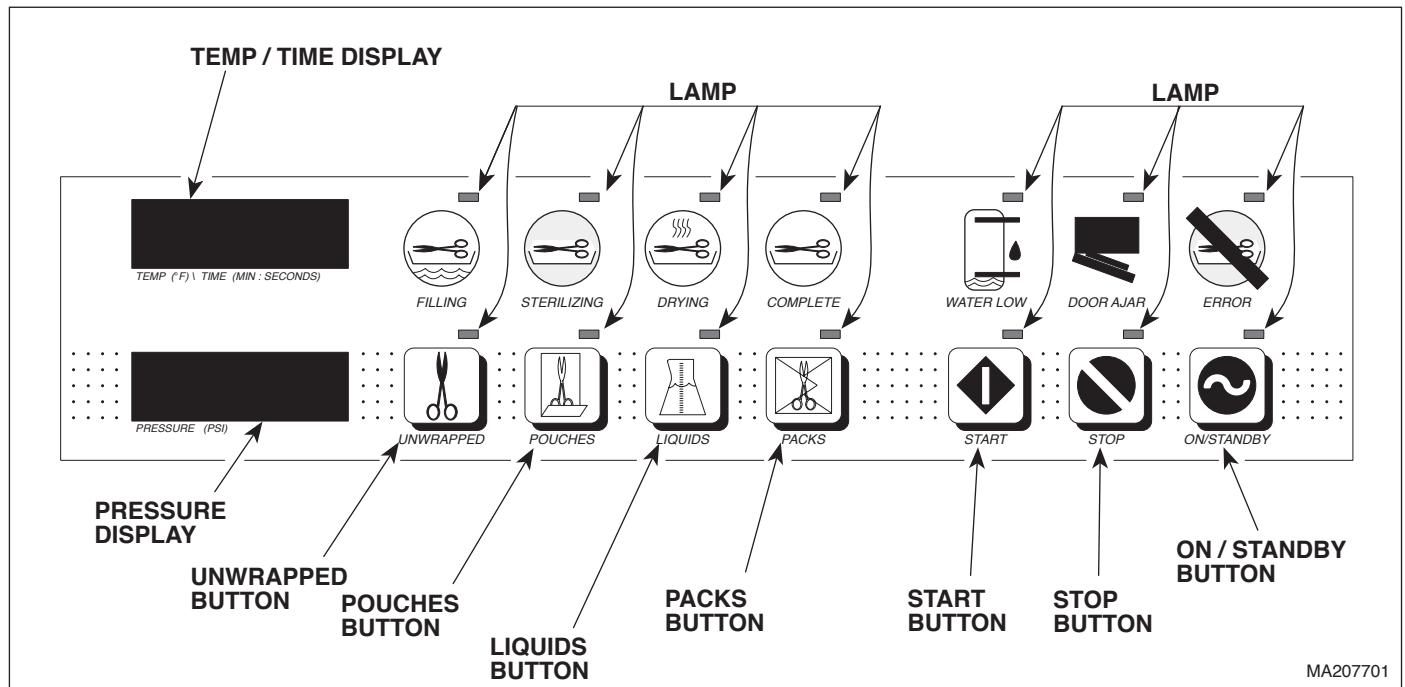

Figure 4-27. Display PC Board Lamp / Display / Button Check
- (3) Press and hold down the LIQUIDS and PACKS buttons simultaneously while connecting the power cord to the sterilizer (See Figure 4-27). Release the LIQUIDS and PACKS buttons.
- (11) Press the START button to start a test/calibration cycle and wait until the temperature on the TEMP (°F) / TIME (MIN: SECONDS) display reaches 272 - 273°F (133-134°C) (See Figure 4-27).
- (13) Recheck the multimeter reading. It should still read 2.550 VDC \pm 0.001 VDC.
- (14) Press the STOP button to end the test/calibration cycle and allow the sterilizer to vent and open its door (See Figure 4-27).